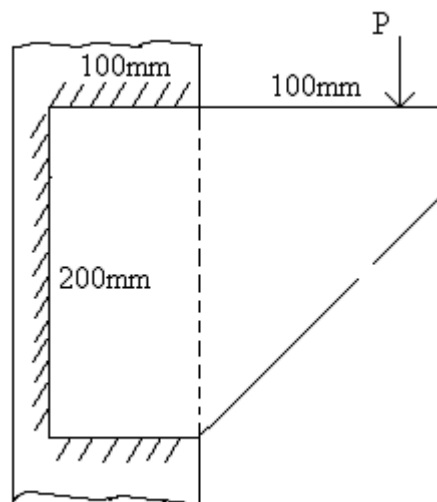

Figure 1
b) Find the magnitude of the load P for bracket plate which can be applied on the connection shown in figure 1. The max allowable shear stress in welds = 110 N/mm². [4+12]